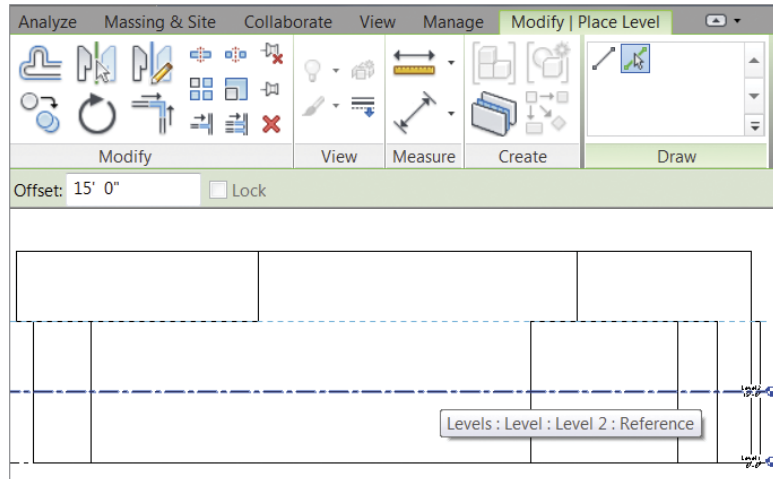

FIGURE 7.6 Use the Pick Lines tool to create a new level.
5. Hover your mouse over the Level 2 annotation element. Look for a dashed blue line to appear *above* Level 2. This dashed line indicates where the new level will be placed; see Figure 7.6.